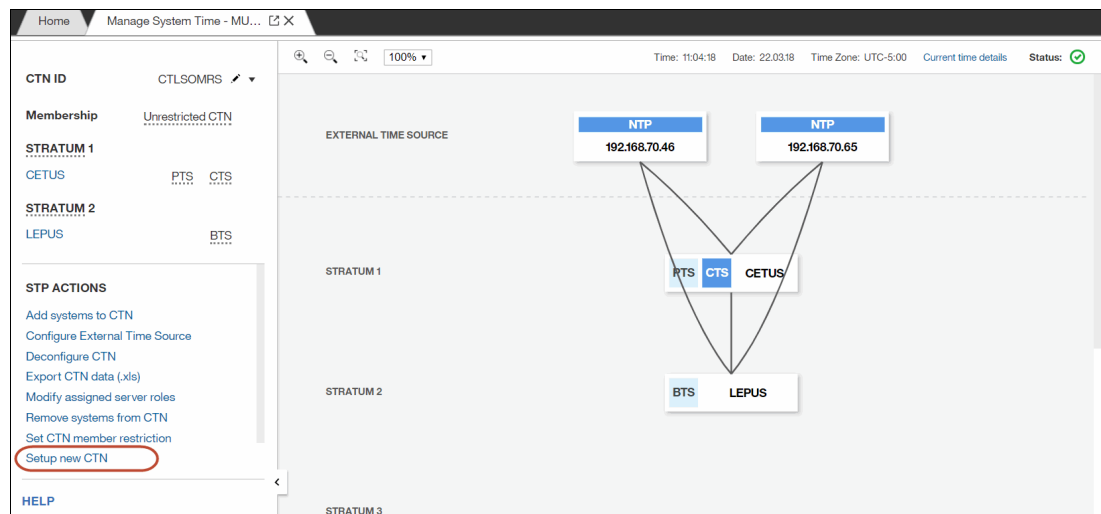

Figure 8-33 Setting up new CTN
2. The Manage system Time window opens. If defined CPC objects exist that configured a CTN, the CTN configuration is displayed graphically. To define a new CTN, select **Setup new CTN** from the STP ACTIONS list (see Figure 8-33).
After the new CTN configuration process is completed, you can configure the ETS. In this example, we define two HMCs that are configured as NTP server for ETS (see Figure 8-33 on page 177). If your CTN is configured with more than two CPCs, you can set individual ETS for PTS and BTS.